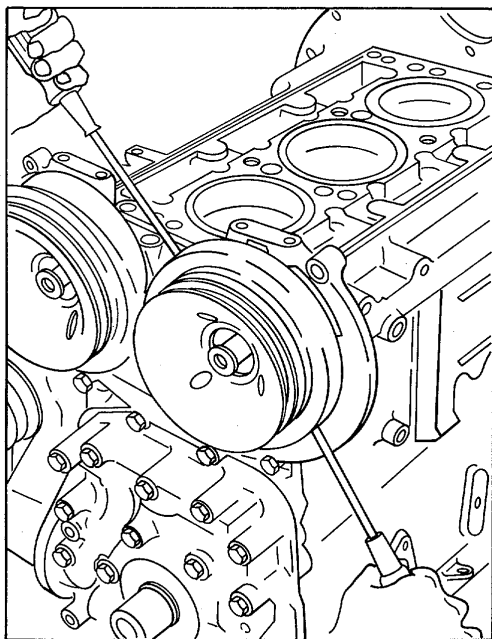

Figure 1. Removing Front Balance Weight (Pulley Type)
2. Force the balance weight off the end of each shaft, using two screw-drivers or pry bars between the balance weight and the upper front cover as shown in Fig. 1.
3. Wedge a clean rag between the gears. Refer to Fig. 1 *Camshaft and Bearings* and tighten the gear retaining nuts to 300-325 lb ft (407-441 Nm) torque. Then tighten the front balance weight retaining nuts to 300-325 lb ft (407-441 Nm) torque. Remove the rag from the gears.